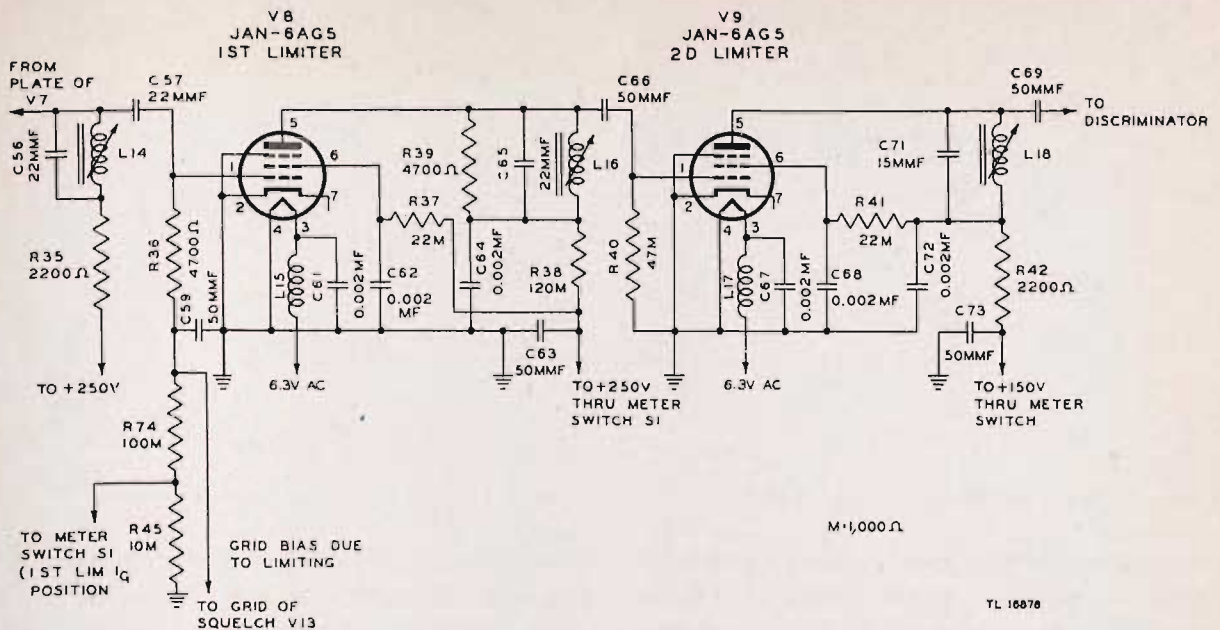

Figure 99. Radio Receiver R-48 TRC-8 (XC-3), functional diagram of first and second limiter stages.
a. First Limiter. The limiter stages (fig. 99) remove all amplitude variations of the signal so that the discriminator input voltage is constant. Two limiters are used so that more perfect limiting is obtained. These tubes operate at their saturation point. Therefore any amplitude modulation present, such as high-frequency noise voltages, cause no change in limiter plate current and these unwanted noises are rejected. Capacitor C57 couples the i-f signal from the preceding stage to the grid of the first limiter, Tube JAN-6AG5 (V8). Resistor R36, bypassed to ground by capacitor C59, reduces the Q of the i-f circuit to increase the bandwidth. R74 and R45 are grid resistors. The grid return voltage is applied to the grid of the squelch tube so that rectified grid current, a function of limiting, will increase the bias applied to the squelch tube and cause squelch relay RL1 to drop out with a strong signal. L15 is the heater choke bypassed to ground by capacitor C61. The high-voltage supply is bypassed
b. Second Limiter. Capacitor C66 couples the signal from the preceding stage V8 to the grid of the second limiter, Tube JAN-6AG5 (V9) (fig. 99). Resistor R40 is the grid resistor. L17 is the heater choke and is bypassed to ground by capacitor C67. The high-voltage supply is bypassed to ground by capacitor C73. Resistor R42 is the plate and screen decoupling resistor bypassed to ground by capacitor C72. Resistor R41 is the screen dropping resistor and the screen is bypassed to ground by capacitor C68. Coil L18 tuned to 30 mc by capacitor C71 is the second limiter transformer. Plate and screen voltage for this limiter stage is taken from the regulated 150-volt output of the power supply and flows through the meter so that limiter plate current is indicated on the meter when the meter switch is in the 2d LIM. Ip position. Sufficient gain is provided for limiting action to start on the noise voltage generated in the grid